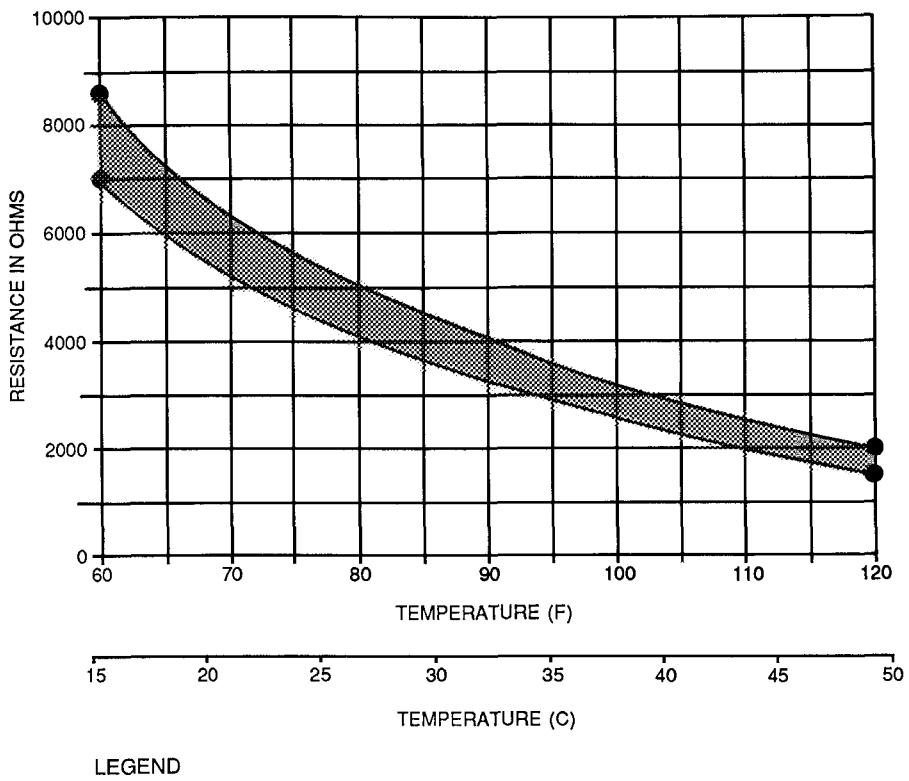

Fig. 31 — Thermistor Resistance vs Temperature
5. Thermistor sensor lead connections should be carefully rechecked if there is an operational problem. See the thermistor characteristic for sensor 30GT412176 shown in Fig. 31. The controller operates between 1600 ohms and 5800 ohms. At 1600 ohms the controller is at full voltage. At 5800 ohms the output is at a minimum (10% of motor speed).